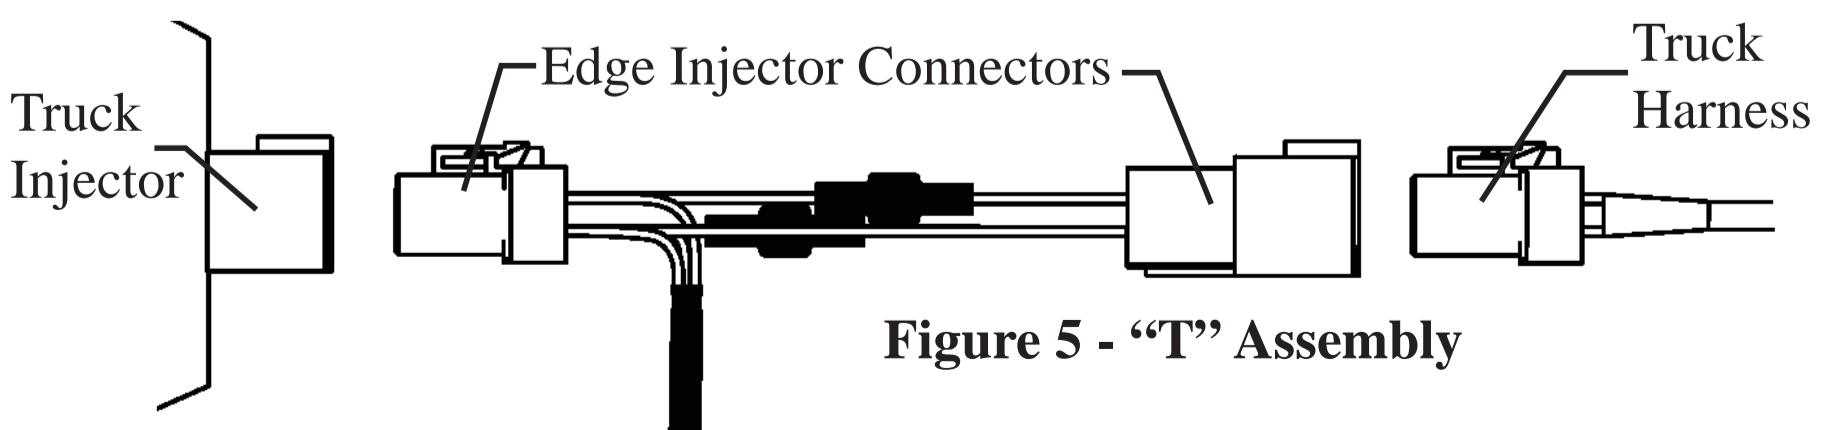
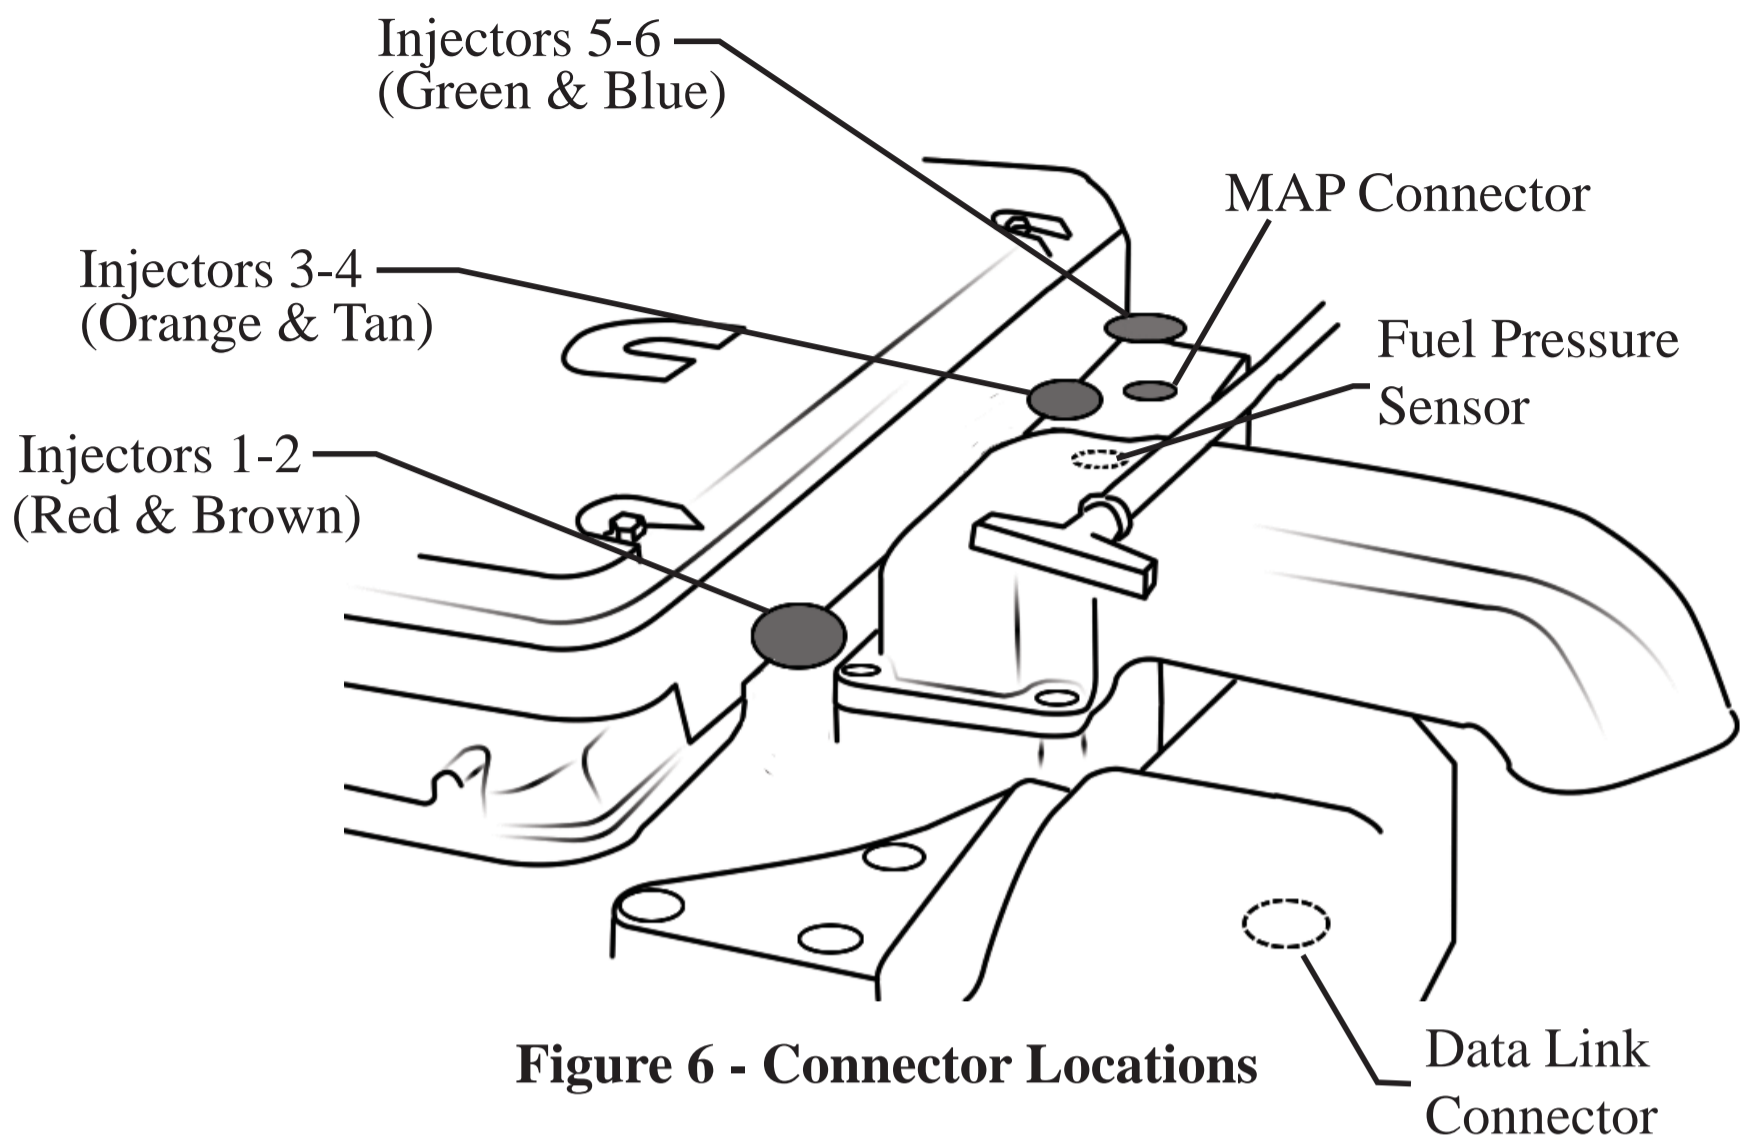

Figure 5 - "T" Assembly
Figure 6 - Connector Locations
1. Disconnect all 3 stock injector connectors by squeezing the tab on the top of each connector. (Figure 6 for locations)
2. Gently insert the Juice 'T' Injector Connectors between the stock connectors, and lock in place. (Figure 5) **NOTE: Match Edge Harness connectors to the proper injector set according to the wire colors described in Figure 6.**
1. Locate MAP connector. (Figure 6)
1. Locate Data Link connector. (Figure 6)
1. Locate Fuel Pressure Sensor connector. (Figure 6)